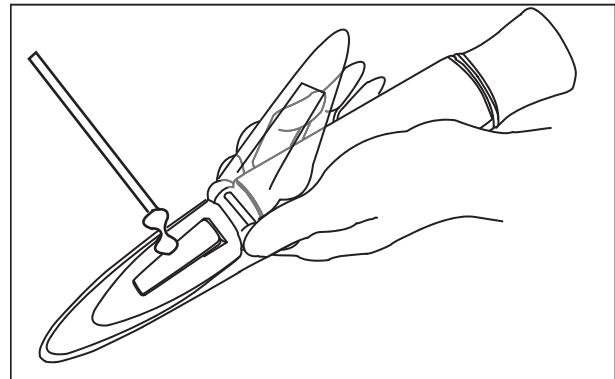

Fig. 6-4 Measuring procedure 1
1. Place 1 or 2 drips specimen on the prism. (Fig. 6-4)